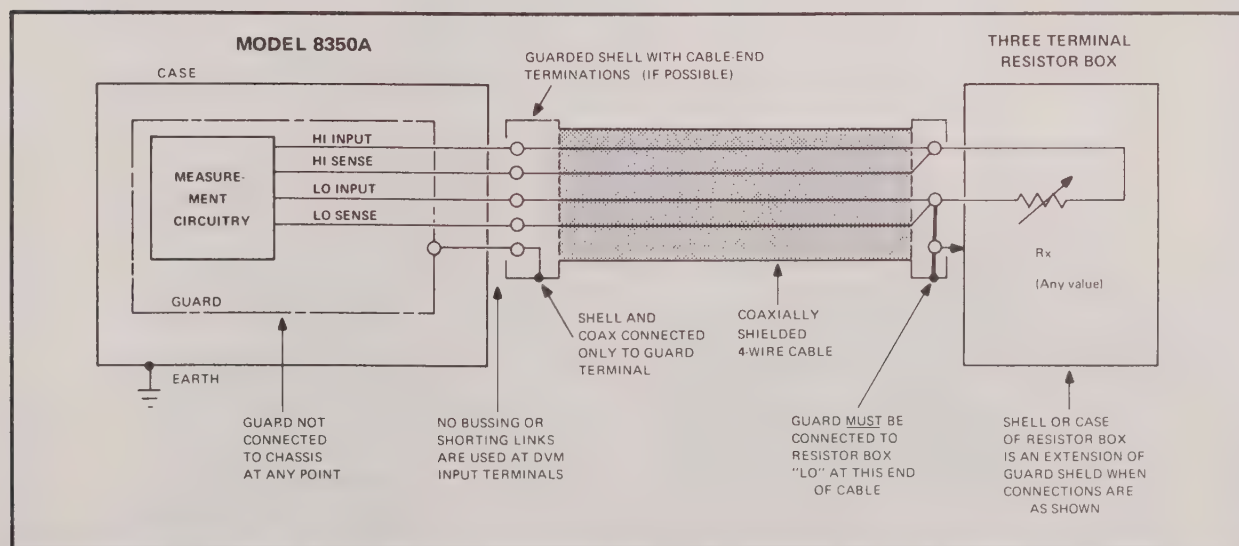
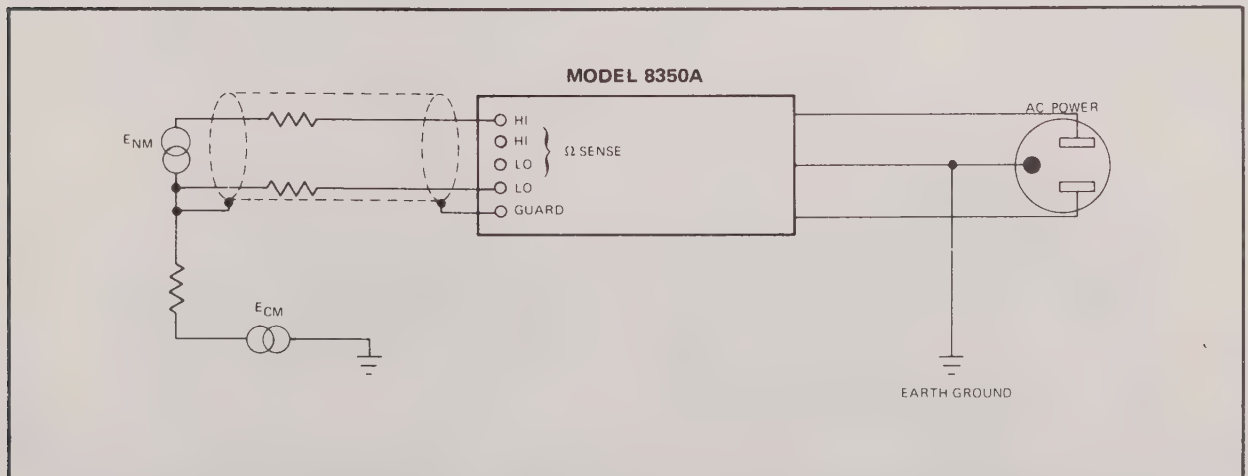
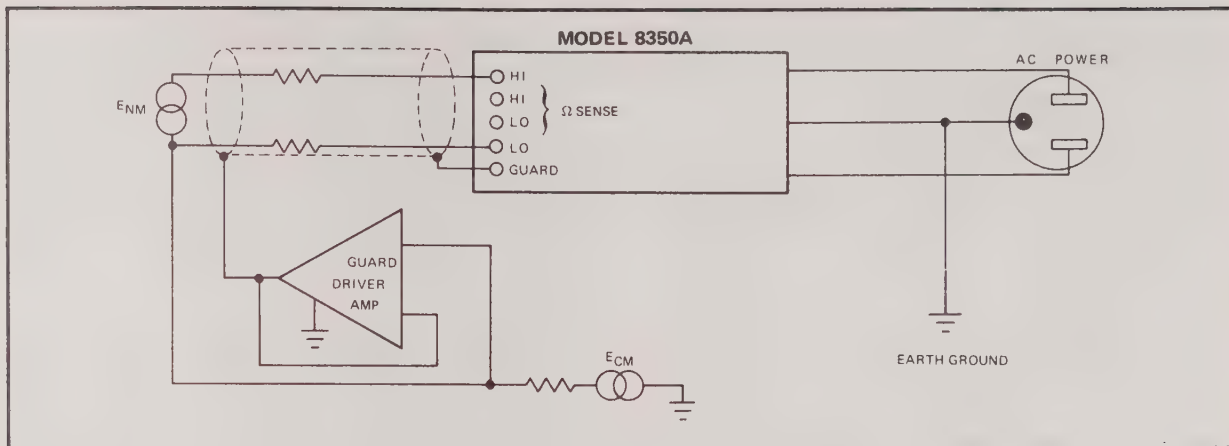

Figure 2-4. PROPER GUARD CONNECTIONS FOR FOUR-TERMINAL RESISTANCE MEASUREMENT SYSTEM
Figure 2-6. CONNECTIONS FOR DRIVING THE GUARD FROM THE COMMON-MODE SOURCE.
Figure 2-7. USING AN EXTERNAL AMPLIFIER TO DRIVE THE GUARD
- f. If it is suspected that the resistance of the connecting leads will be excessive, due to lead length for example, an increase in accuracy will be obtained by utilizing the 4-terminal ohms capability. The increase in accuracy will depend on the ratio of the lead resistance to the unknown resistance. For low values of unknown resistance, the 4-terminal connection affords a significant increase in accuracy. The connections should be as shown in Figure 2-4.
2-33. The guarding and shielding employed in the Model 8350A provide means for effectively making Z_1 very large, thereby reducing E_{R02} to an acceptable level for reasonable values of R_{02} and consequently greatly enhancing CMRR. Z_1 is effectively increased by forcing the common-mode source to drive the guard shield to a potential equal to that on the internal signal return (See Figure 2-6). Under these conditions, there will be a small constant potential across the terminals of Z_1 , no current will flow through R_{02} and Z_1 , and consequently E_{R02} will nearly equal zero volts.
2-34. In Figure 2-6, Z_2 is placed directly across E_{CM} . Under some circumstances, where E_{CM} cannot be conveniently loaded with Z_2 , a guard driver may be used, as shown in Figure 2-7.
2-37. The guarding and shielding techniques shown in Figures 2-6 and 2-7 are of considerable importance in reducing these errors, assuming that the noise does not originate in the source itself. Further improvement, however, may be obtained by using guarded or shielded cable terminations as shown in Figure 2-4.